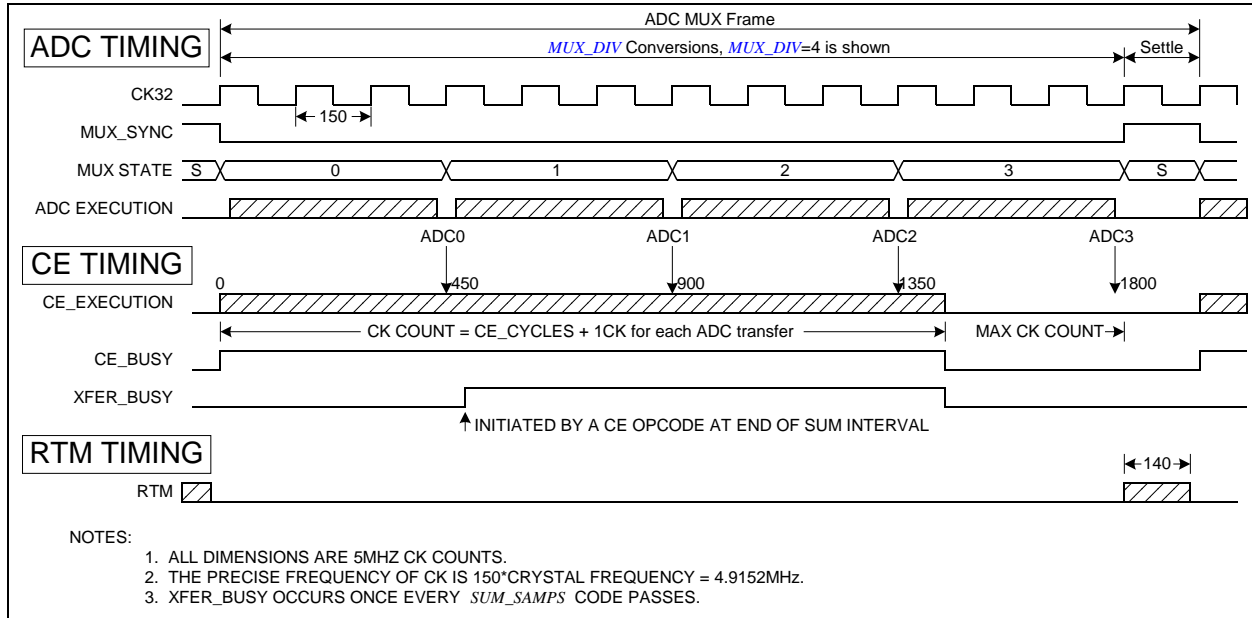

Figure 11: Timing relationship between ADC MUX, CE, and RTM Serial Transfer
Figure 11 summarizes the timing relationships between the input MUX states, the *CE_BUSY* signal, and the RTM serial output stream. In this example, $MUX_DIV[3:0] = 4$ (*I/O RAM 0x2100[7:4]*) and $FIR_LEN[1:0] = 10$ (*I/O RAM 0x210C[1]*), (384), resulting in 4 ADC conversions. An ADC conversion always consumes an integer number of *CK32* clocks. Followed by the conversions is a single *CK32* cycle.
Figure 11 also shows that the RTM serial data stream begins transmitting at the beginning of state S. RTM, consisting of 140 *CK* cycles, always finishes before the next CE code pass starts.